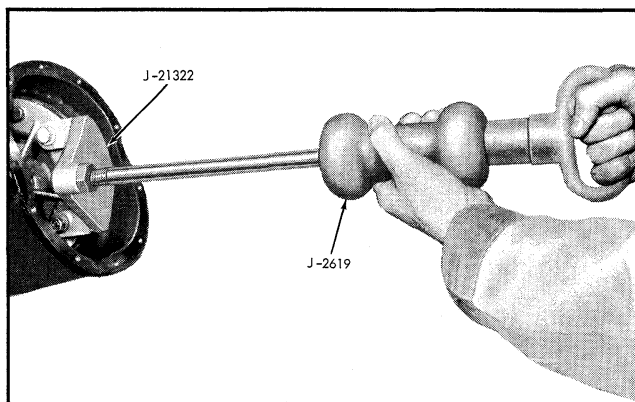

Fig. 4-24 Removing Differential Case
3. Remove two ring gear to case assembly bolts. Install ring gear and case remover J-21322 and slide hammer J-2619 as shown in Fig. 4-24.